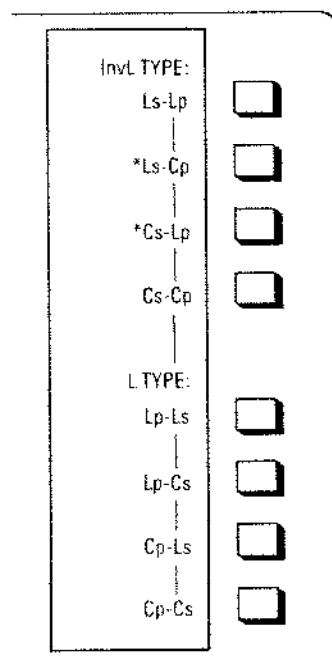
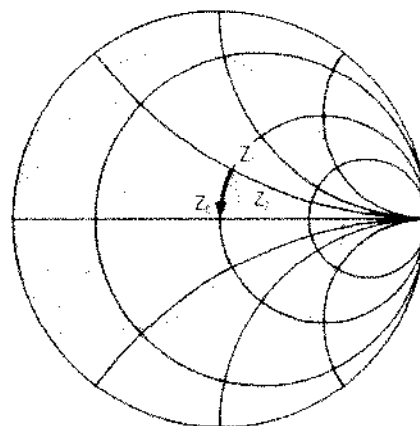

Figure 3. The Select Circuit menu shows which matching models are valid for a given device or circuit.
Figure 10. By traveling along constant resistance or constant conductance circles, lossless elements are used to design matching circuits
4. To see the eight matching circuit models press {SELECT CKT}, the "*" notation indicates the other valid matching networks (see Fig. 3). Choose another model and press {CALCULATE PARAMETERS} to recalculate the element values for that model.
All the models are automatically analyzed each time Conjugate Matching is invoked. The HP 8751A usually finds several suitable models, indicated by "*" as shown in Fig. 3.
Admittance varies along a constant conductance circle (grey line) from Z_2 to Z_1 by inserting an inductance in parallel with the device. And the impedance varies along a constant resistance circle (solid line) from Z_1 to Z_0 by inserting capacitance in series with the device as shown in Fig. 10.
Impedance transformations on the Smith chart (Fig. 10) can be generalized by the following four rules:
These impedance transformations are realized by lossless elements, inductors (L) and capacitors (C). The values can be calculated from the change in the reactance or the susceptance of Z_0 , Z_1 and Z_2 as shown in Fig. 10. The difference in reactance between Z_2 and Z_1 is realized with a shunt inductor. The move from Z_1 to Z_0 is achieved with a series capacitor.
Note that in the above example in Fig. 10, we went counterclockwise twice. One just as easily could have performed the match by traveling clockwise. Because there are usually several ways of moving from any given impedance to the center of the Smith chart, multiple matching circuits are often offered by Conjugate Matching as seen in Fig 3. and in the design example.